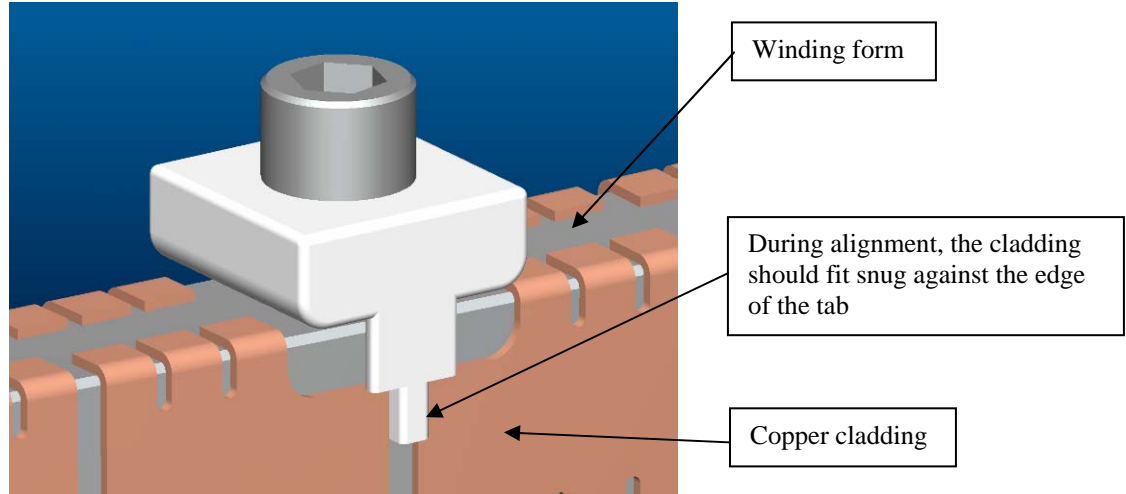

Figure 24- Cladding Positioning Block
- Apply (1) layer of adhesive backed Kapton tape (0.00325 in. thick) to the backside of the cladding that is facing the winding surfaces. Trim the Kapton insulation to the cladding profile. Slit the Kapton between fingers.
- Use the cladding positioning block [Figure 24- Cladding Positioning Block, to fitup and align the vertical cladding strips.